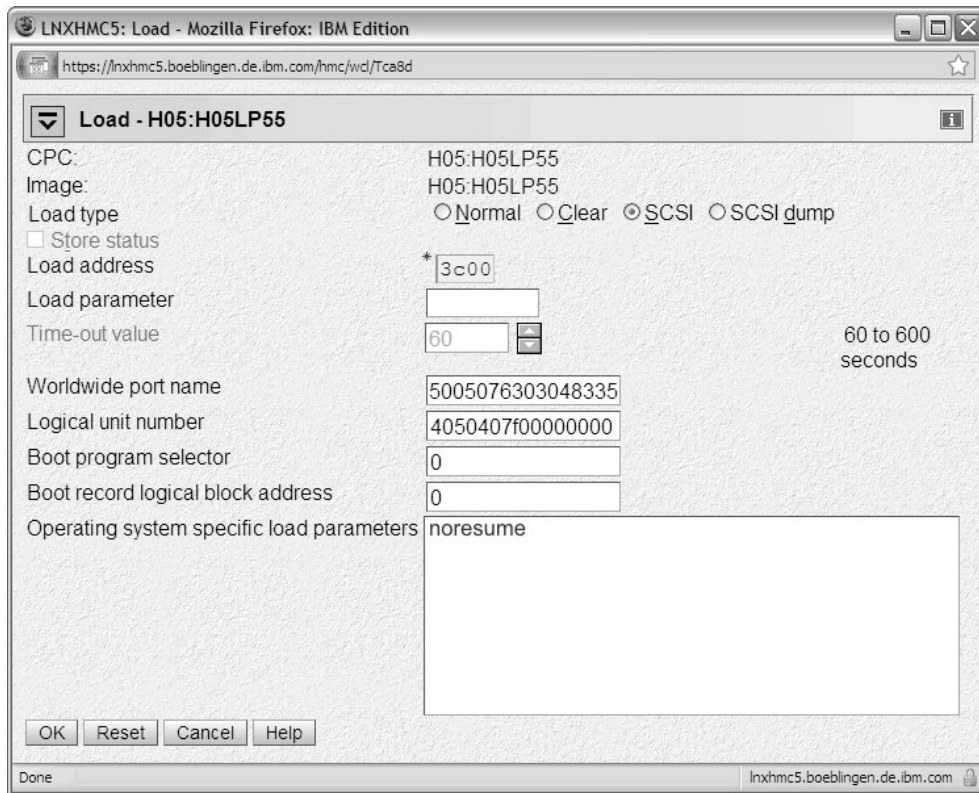
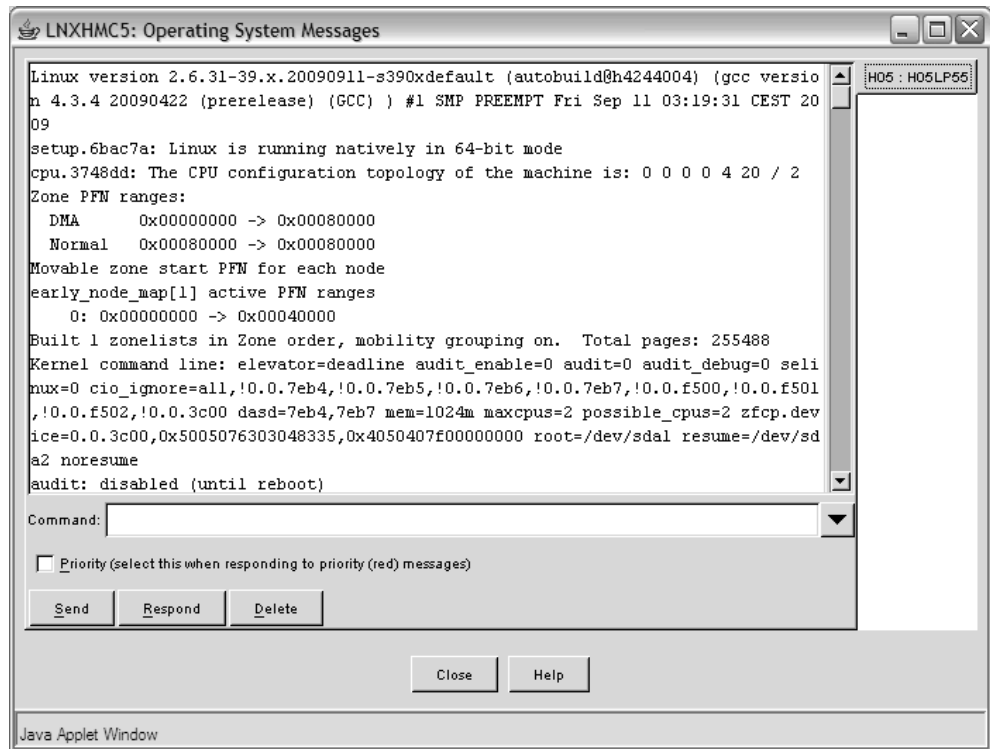

Figure 10. Load panel
Figure 11. Example of a SCSI IPL
The disk is now bootable and contains two boot configurations, selectable through the boot program selector parameter `bootprog` (see also Figure 10 on page 30). Note that the interactive boot menu is not shown when booting from SCSI.
1. Once the SCSI IPL feature is active, the SE or HMC display an enhanced load panel as shown in Figure 10 on page 30.
Figure 11 shows the boot messages.
In Figure 10 on page 30, `noresume` has been typed into the **Operating system specific load parameters** field. In Figure 11 this specification has been concatenated to the end of the existing boot parameters used by the boot configuration. This causes a regular boot process, even if the Linux instance had previously been suspended to a swap partition.